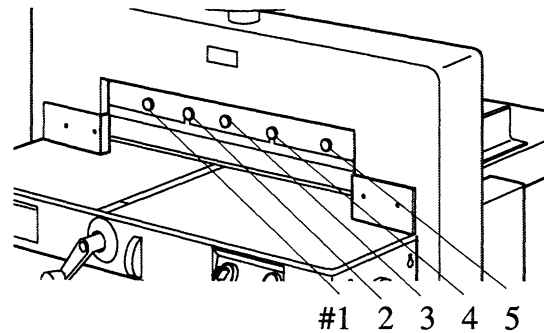

Fig. 4-2
- Remove knife securing bolts #2 and #4. (Fig. 4-2)
- Holding knife change handle, apply pressure towards right (Fig. 4-2) while removing #3 center bolt.